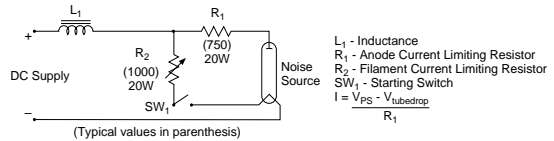
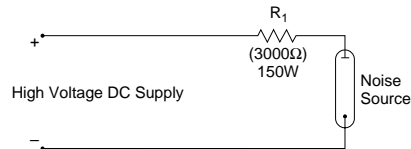
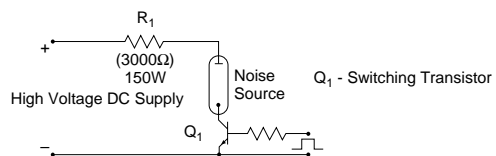

Figure 1. Circuit for DC operation of filamentary cathode tubes.
Figure 2. Typical circuit for high voltage DC operation of noise tubes.
Figure 3. Simple circuit for pulse operation of noise tubes.
**DC operation of filamentary cathode noise tubes** — The DC supply in Figure 1 is fed to the tube through an inductance, L, and current limiting resistances, R1 and R2. Upon closing the starting switch, SW, current flows through the inductance, resistance R2, and the filamentary cathode. When the switch is opened, the collapse of the magnetic field in L provides a high voltage spike that ionizes the gas in the tube and establishes the discharge from anode to cathode. The anode current is then limited by R1. SW must be capable of fast break
The alternate configuration in Figure 2 uses a DC supply with a potential greater than the starting voltage to eliminate the need for the inductor and switch of Figure 1.
**Pulse operation of hollow cathode noise tubes** — These tubes are capable of operating for hundreds of millions of starts. Primary parameters are pulse width, pulse current, and pulse repetition rate. The circuit in Figure 3 uses a high voltage transistor Q driven into saturation. The diode is added to help ensure discharge turn-off.
**DC or pulse operation of indirectly-heated cathode noise tubes** — These tubes may be operated by the circuit in Figure 1 modified to include a continuous filament voltage (often 6.3VAC). The circuits in Figures 2 through 4 may be used without modification.
**Grounded anode operation** — For all previous methods of operation and cathode types, the polarity can be reversed when desirable so the anode may be operated grounded. In the circuit in Figure 1, under reversed polarity conditions, the inductor  $L$  would be moved to the cathode side as would the limiting resistor  $R_1$ . Similar modifications would be made to the circuits in Figures 2 through 4 with the NPN transistors replaced with PNP transistors.
**DC operation of filamentary cathode noise tubes** — In the circuits of Figures 1 and 2, these tubes generally require 700-2500V starting spikes, operate at anode currents of 50-250mA DC, and exhibit tube drops on the order of 40-150VDC. Their life under conditions of essentially continuous operation, with only occasional starts, is generally in excess of 8000 hours and may be as high as 20,000 hours. Their life under pulse conditions is short. The circuits in Figures 3 and 4 can also be used for DC operation.
**Pulse operation of hollow cathode noise tubes** — In the circuits of Figures 3 and 4, these tubes usually require starting spikes of 700-3000V, operate at peak currents from 75-175mA, and have tube drops of 100-250V. Under pulse conditions with duty cycles of up to 50%, their life is typically 2000-5000 hours. In general, under intermittent DC conditions, they have adequate life of at least 500-1000 hours.
**DC or pulse operation of indirectly-heated cathode noise tubes** — In the circuits of Figures 1 through 4, these tubes can be operated with very long life under either DC or pulse conditions. This particular cathode assembly utilizes an electrostatic shield around the cathode resulting in minimum ion bombardment of the active cathode surface area. The coated area is such that the maximum current density for any tube of this type is ultra-conservative. These tubes generally require starting pulses on the order of 500-2000V,